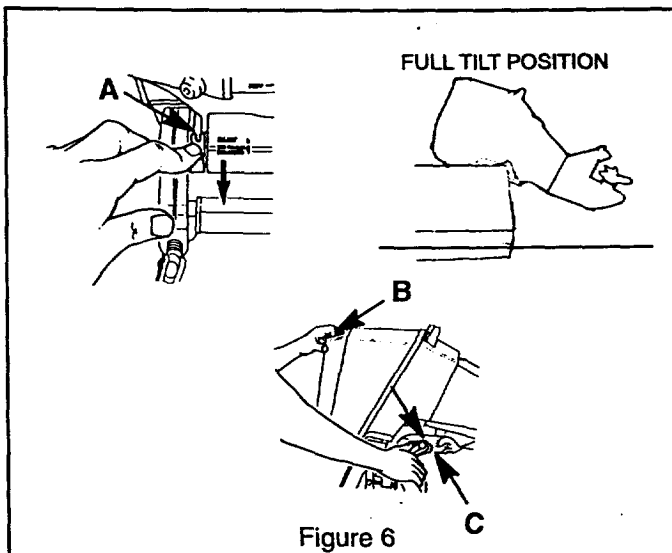
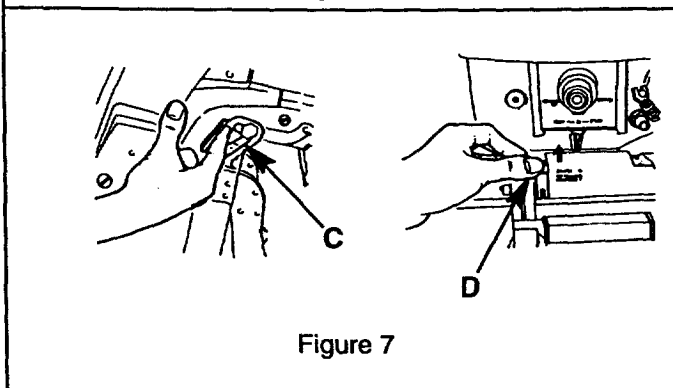

Figure 6
Figure 7
MOTOR TILT POSITION (FIG. 6&7)
- Tilt the motor and lock it in the full tilt position (Fig.6).
- Lift the shallow water drive bar (A) up until it clicks into it's "up" position.
- Pull the tilt lock (C) in Figure 7, up and slowly lower the motor making sure that the shallow water drive bar (A) rests against the transom angle pin, (B).